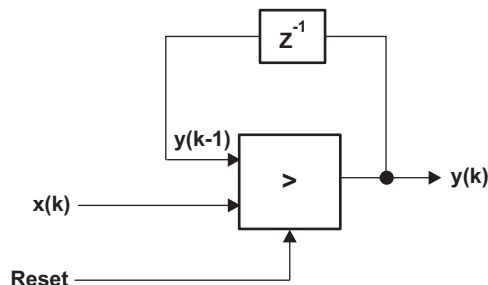

Figure 18. Peak Extractor
The peak extractor algorithm is shown pictorially in Figure 18.
- Generate reset signal for the peak extractor shown in Figure 18.